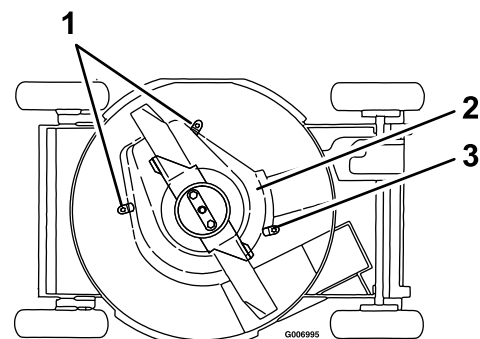

Figure 35
5. Remove the blade nuts, the anti-scalp cup, the accelerator, and the blade (see Figure 35).
6. Loosen the tabs that secure the BBC shield to the deck by loosening the nuts or the bolts on the tabs (Figure 35). Rotate the tabs 180° to move them out of the way.